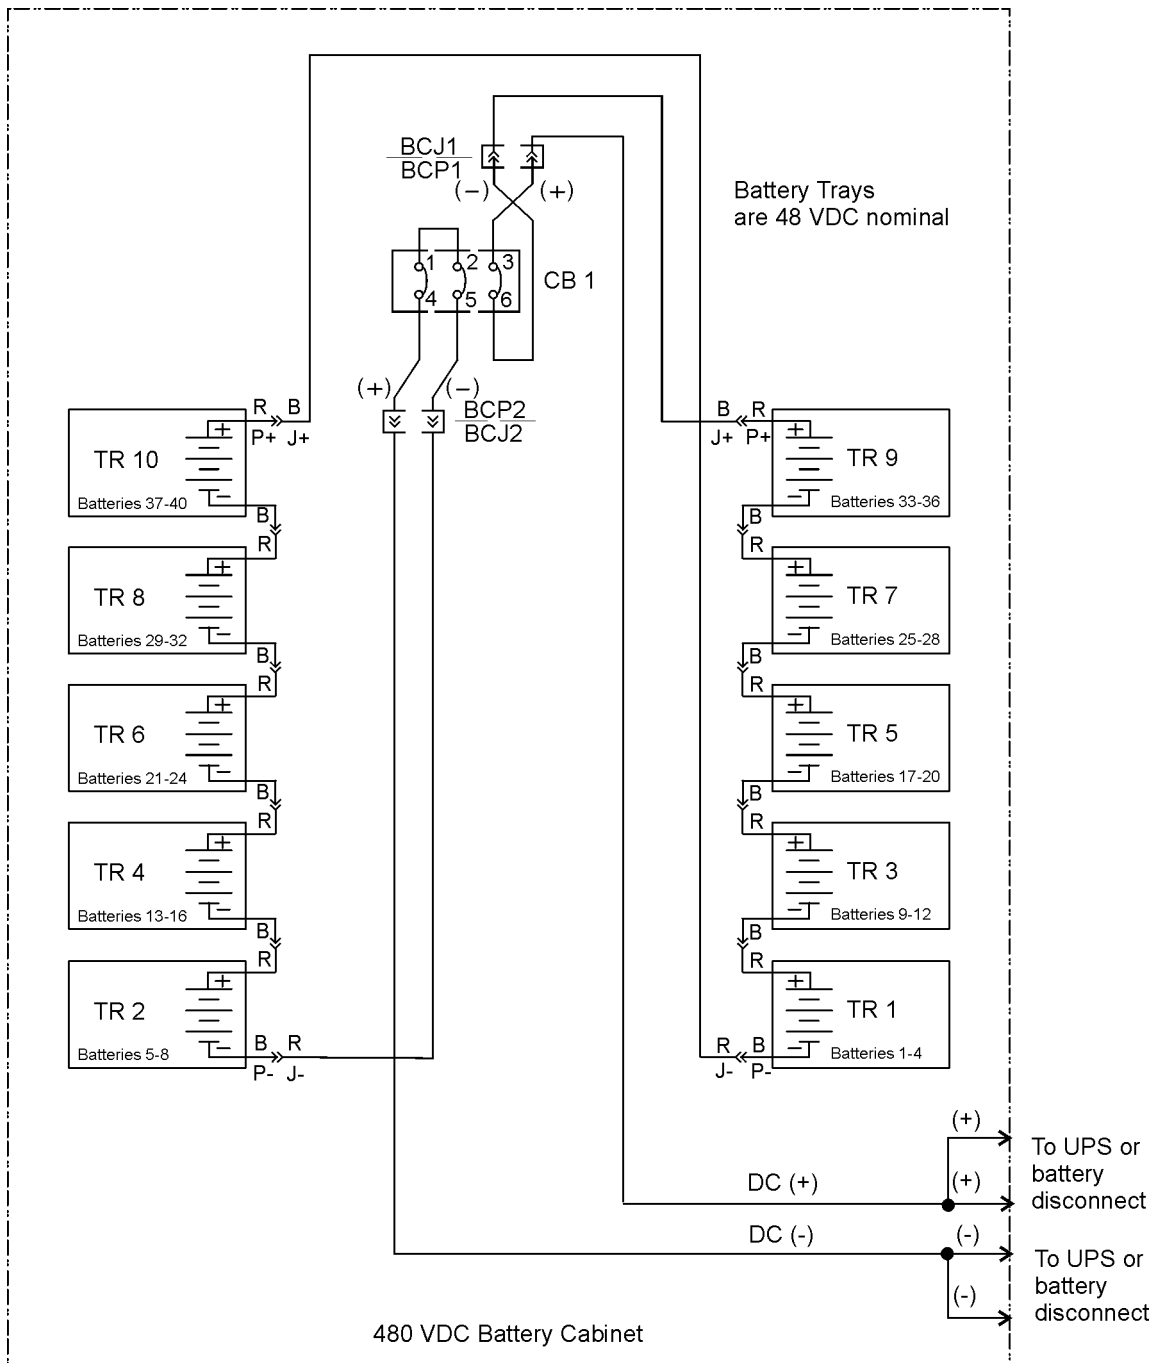
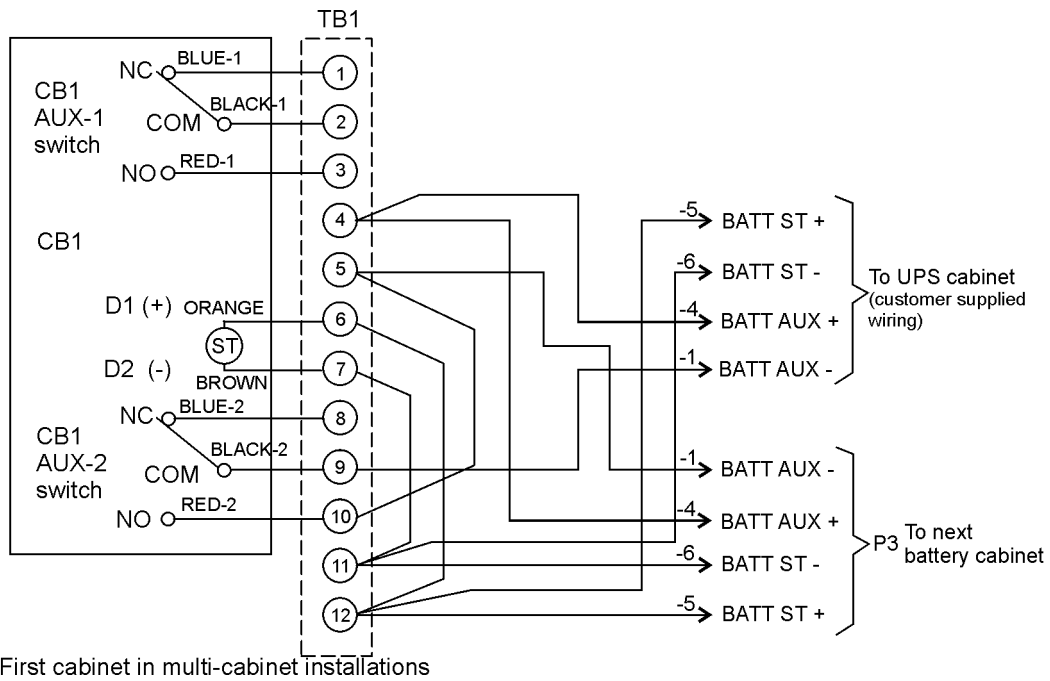

Figure 5-5. Battery cabinet with three-pole breaker power wiring schematic
Figure 5-6. Battery cabinet breaker CB1 control wiring schematic – first cabinet
2. In the first battery cabinet, locate the battery-cabinet-to-battery-cabinet Shunt Trip and Aux battery interface cable with connector P3. Route this connector into the next cabinet and mate with the matching J3 connector in that cabinet (see Figure 4-8 through Figure 4-11, and Figure 5-6 through Figure 5-8 starting on page 27).
3. In the middle battery cabinets, locate the battery-cabinet-to-battery-cabinet Shunt Trip and Aux battery interface cable with connector P3. Route this connector into the next cabinet and mate with the matching J3 connector in that cabinet (see Figure 4-8 through Figure 4-11, and Figure 5-6 through Figure 5-8 starting on page 27). Continue until all battery cabinets are inter-connected.
4. On the first and middle battery cabinet TB1 terminal boards, disconnect the jumper from terminal 4 and connect to terminal 5. On the last battery cabinet TB1 terminal board, verify the jumper is connected between terminals 4 and 10. See Figure 4-9 through Figure 4-11, and Figure 5-6 through Figure 5-8 starting on page 28.
6. Route the Shunt Trip and Aux battery wiring from the first battery cabinet TB1 terminals (see Figure 4-8 and Figure 4-9, and Figure 5-6 on page 27) to the UPS interface terminals through conduit. Use top or bottom entry.
9. Route only the Aux battery wiring from the first battery cabinet TB1 terminals (see Figure 4-8 and Figure 4-9, and Figure 5-6 on page 28) to the battery disconnect interface terminals through conduit. Use top or bottom entry on the battery cabinet.
Figure 5-5 show the battery cabinet three-pole internal power wiring. Figure 5-6 through Figure 5-8 show the battery cabinet breaker CB1 control wiring.